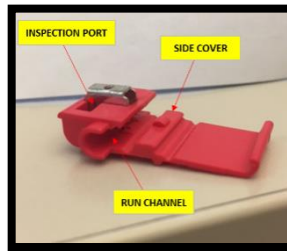

Fig. 6
21. Install a Red Scotchlok™ Self-stripping Electrical Tap Connector (Fig. 6).